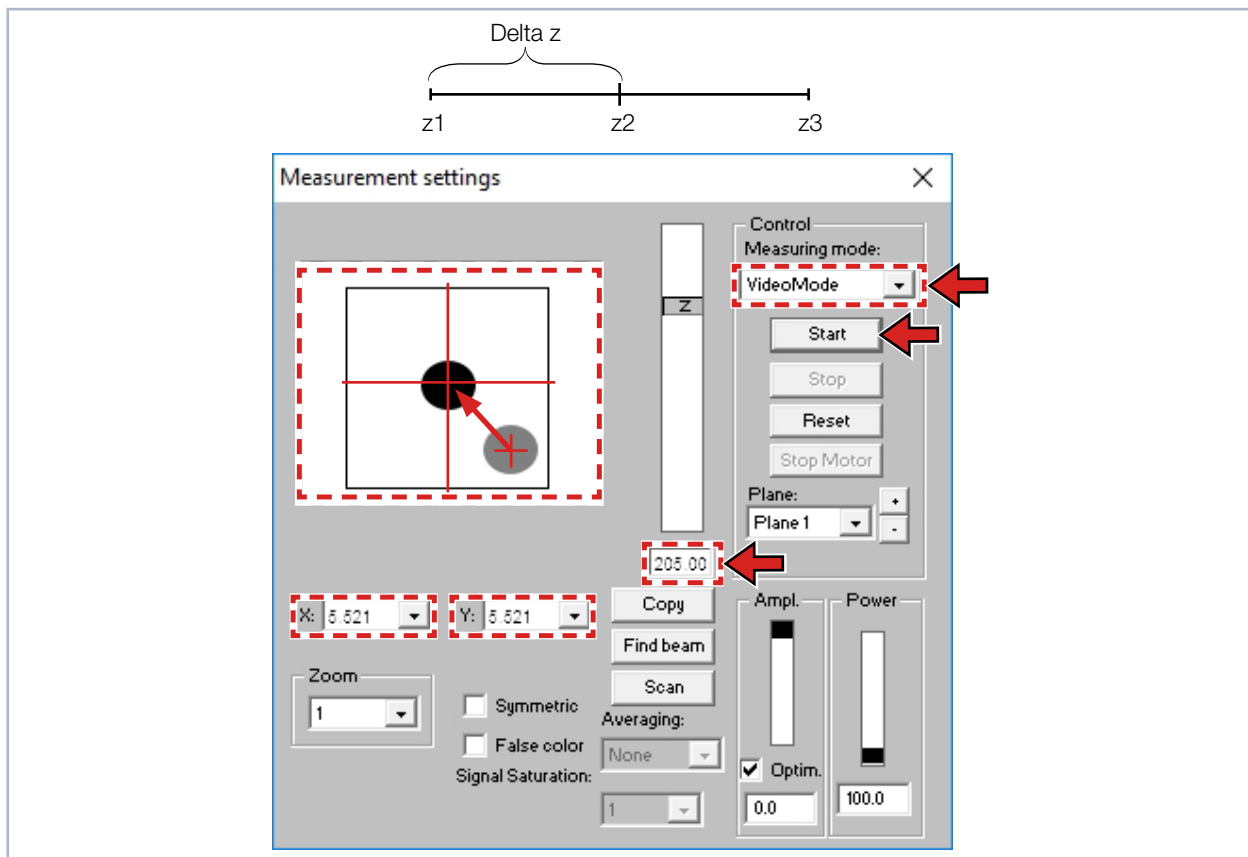

Fig. 13.4: Settings in the dialog window **Measurement settings**
2. Open the dialog window **Measurement > Individual Measurement** and choose **Video Mode** in the **Measuring Mode** area (see Fig. 13.4 on page 94).